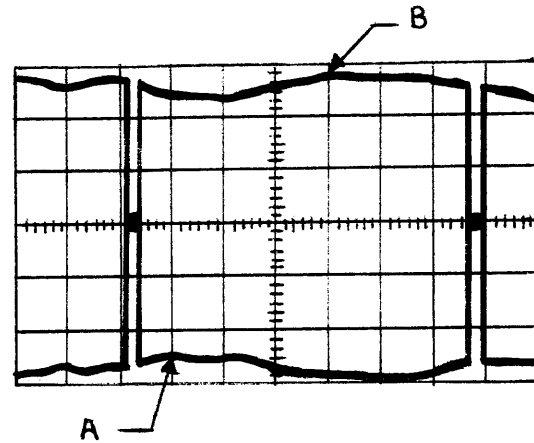

Figure 3: Average Gain Measurement
- Place point A on a reference line and the number of centimeters between point A and point B times V/cm is the average peak-to-peak voltage (see Figure 3) for this signal. Adjust the potentiometer located on the A section of the G085 Module for the desired value.